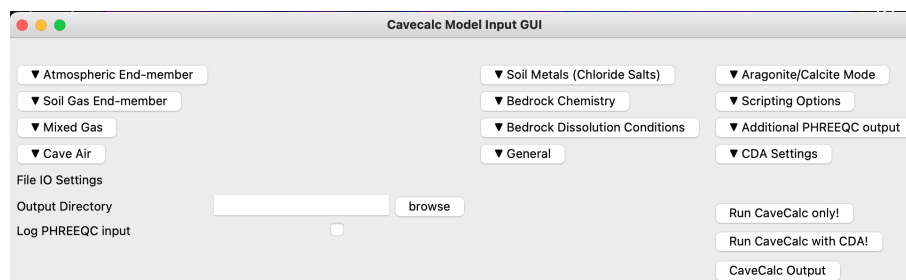

Figure 1: CaveCalcV2.0 GUI. Inputs are grouped under drop-down headings for ease of navigation.
- Open the GUI (see section 1.4). The GUI should resemble Figure 1.
- At the bottom left of the GUI (Figure 1), you can choose an output directory.
In the GUI, users can define the precipitate mineralogy through the drop-down heading Aragonite/Calcite Mode (Fig. 1). This option allows the user to choose either Calcite or Aragonite as the precipitating mineral.